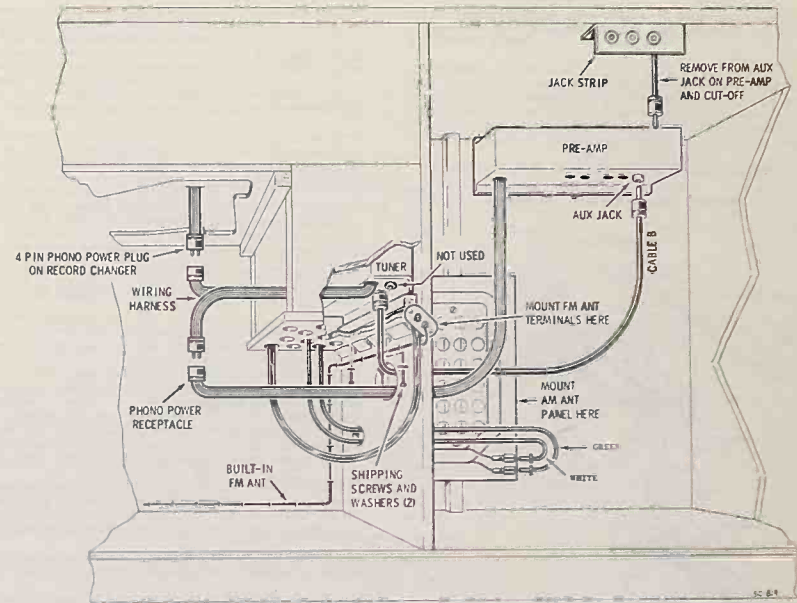

FIGURE 2. SK11 INSTALLATION
5. Mount AM antenna panel to phono cabinet or cabinet back, as shown in Figures 2, 3, 4, 5 & 6. Use #6 x 3/8" tapping screws when mounting to cabinet, or #6-32 x 3/8" machine screws, washers and hex nuts when mounting to cabinet back (on Models SK22, SK24). Mount panel so that flat side is against cabinet or cabinet back, and connecting clips are positioned as shown.
3. Wiring harness and phono cables should come through side of compartment where panel has been removed (except in SK11, SK22 and 24)-cables and wiring harness should be put through holes in bottom of compartment (see Figures 2 and 4).